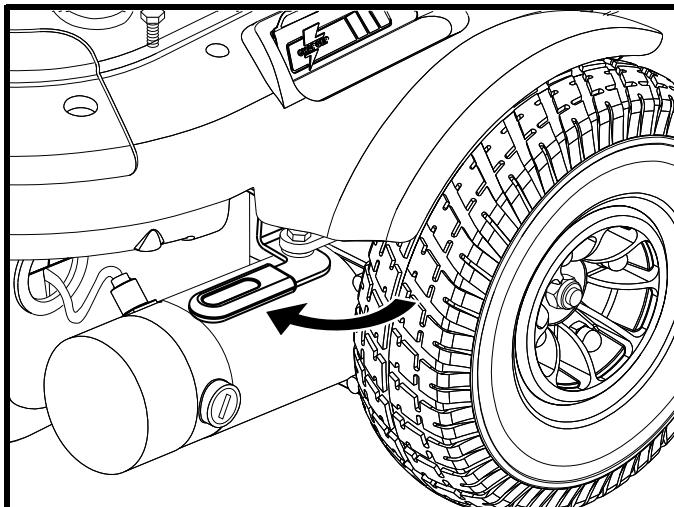

Figure 8. Drive Mode (Drive Engaged)
2. Push both levers inward to engage the drive motors (drive mode). See **figure 8**.